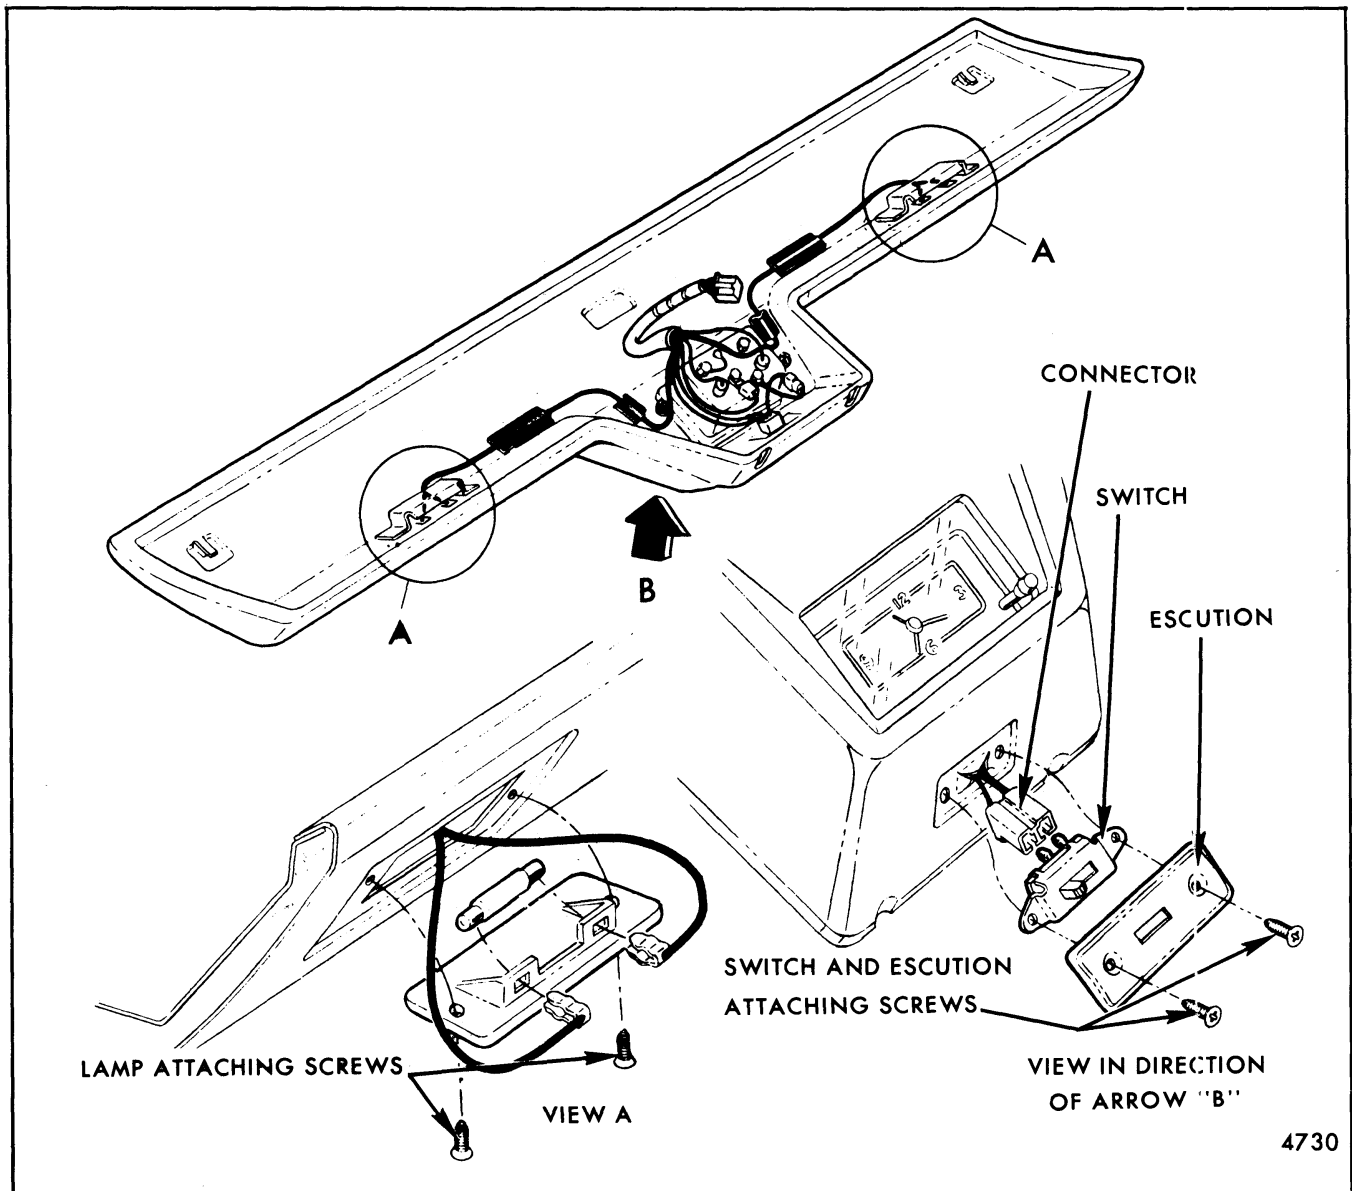
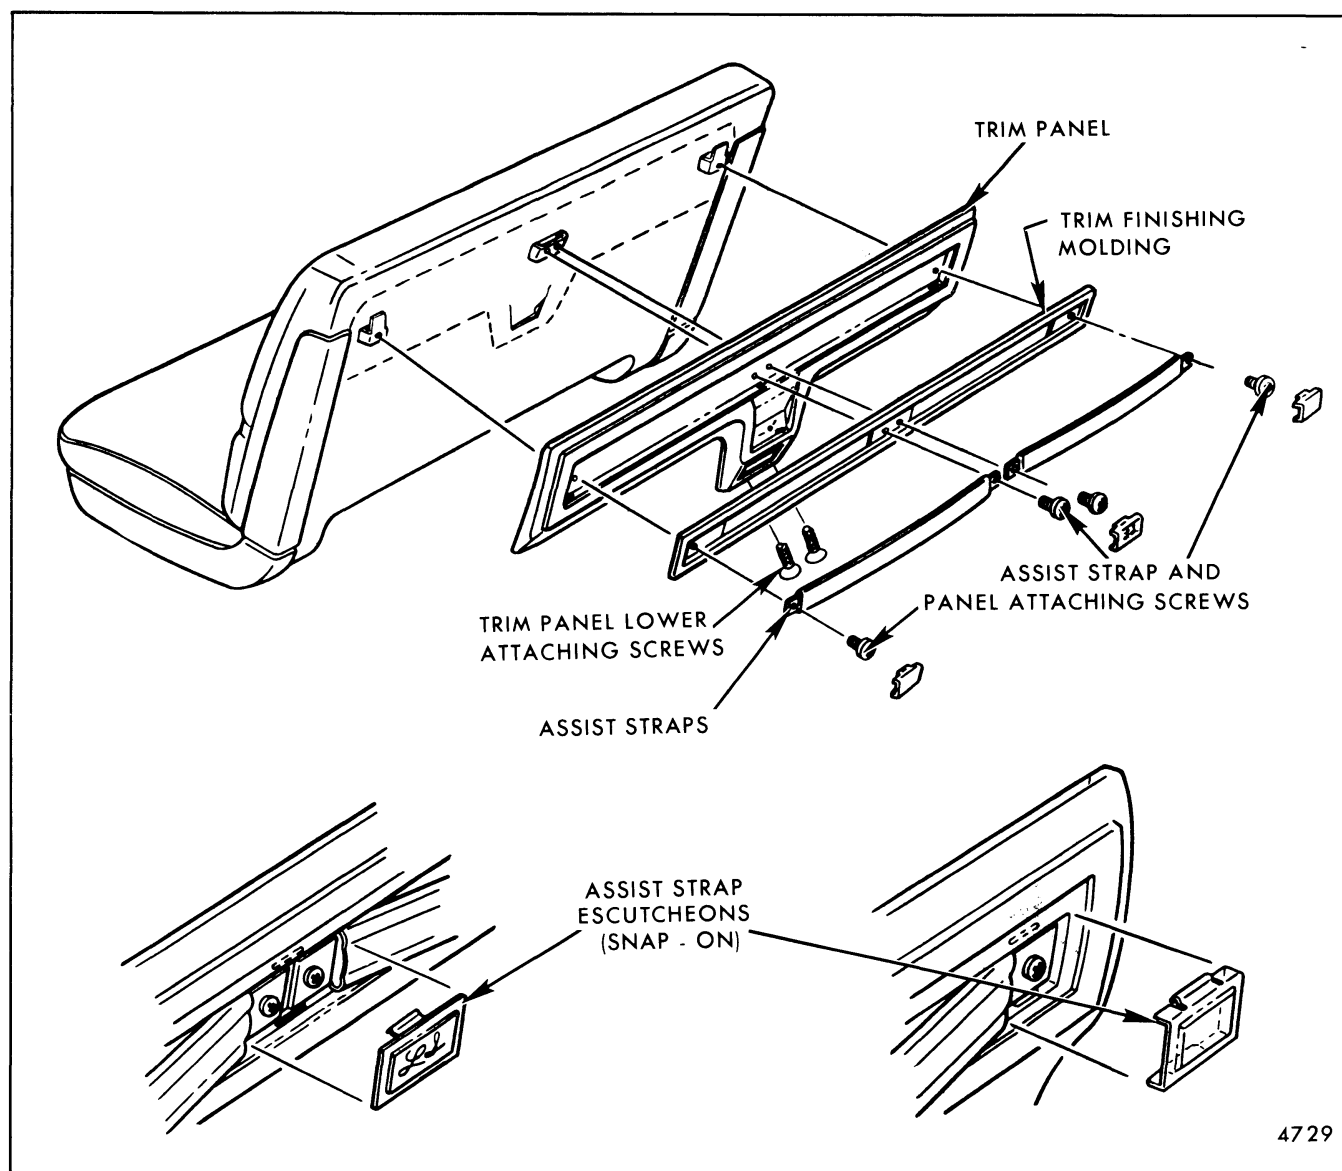

Fig. 9-25-Front Seat Back Clock, Courtesy Lamps and Lamp Switch - Oldsmobile Luxury Sedan
Fig. 9-26-Front Seat Back Assist Straps and Panel Assembly - Oldsmobile Luxury Sedan
2. Disconnect lamp or switch wires (see Fig. 9-25) and remove lamp or switch.
1. At the center and outer ends of the assist straps, carefully pry (snap) off assist strap escutcheons (Fig. 9-26, Views "A" and "B").
2. Remove assist strap and panel attaching screws (Fig. 9-26) and remove assist straps. At bottom center of panel remove two panel attaching screws (Fig. 9-26). Lift panel assembly upward to disengage from hanger brackets; then, disconnect clock and courtesy lamp wire harness connector (see Fig. 9-25) and remove panel assembly from seat back.
3. To remove clock assembly, remove screws from front side of panel securing clock (see Fig. 9-25) and remove clock assembly from panel.